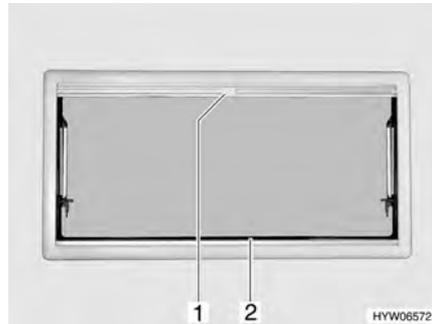

Fig. 61 Hinged window
*Closing:* ■ Grasp the Roman shade (Fig. 61,2) using the holding bar, pull it upwards and then release it at the desired height. The Roman shade will stay at this height.
*Closing:* ■ Pull the insect screen downwards using the handle (Fig. 61,1) until it pushes against the Roman shade (Fig. 61,2).
*Opening:* ■ Press the handle (Fig. 61,1) attached to the insect screen.